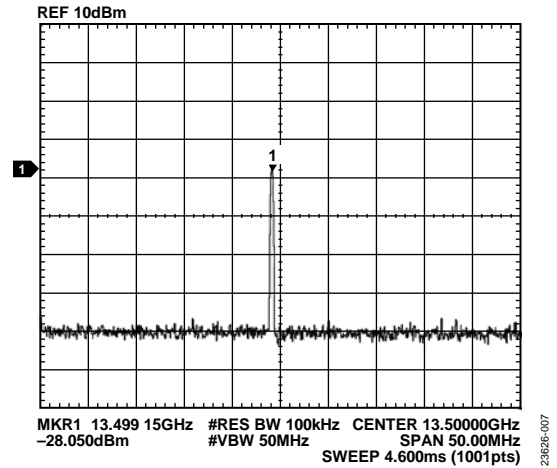

Figure 5. EV1HMC8362LP6G, VCO Band 1, $V_{TUNE} = 8.45$ V, 13.5 GHz, Buffer Amplifier Disabled (J3 Output Muted), Includes Insertion Loss of RF Cable
Figure 5 shows the EV1HMC8362LP6G with VCO Band 1, but with the output buffer muted (VCB_EN on P3 = 0).
3. Remove the bias for the buffer amplifier (VCB), which results in the output power decreasing by approximately 28 dBm. Refer to Figure 5.